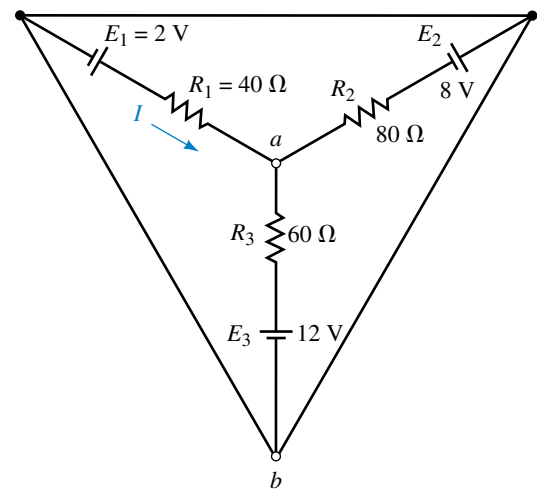

FIGURE 8-84
29. Use mesh analysis to solve for the loop currents in the circuit of Figure 8-84. Use your results to determine I and V_{ab} .